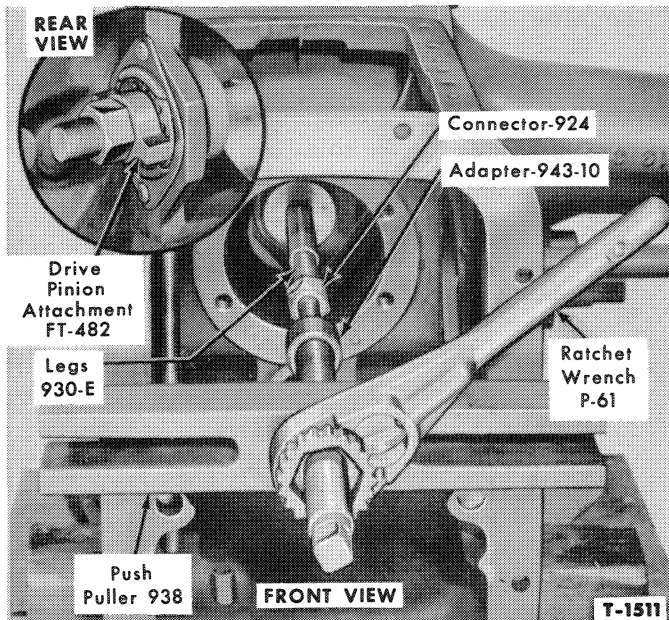

Figure 13—Removing Pinion Gear Pilot Bearing
1. Use the pulling tools shown in Figure 13 and remove the bearing.